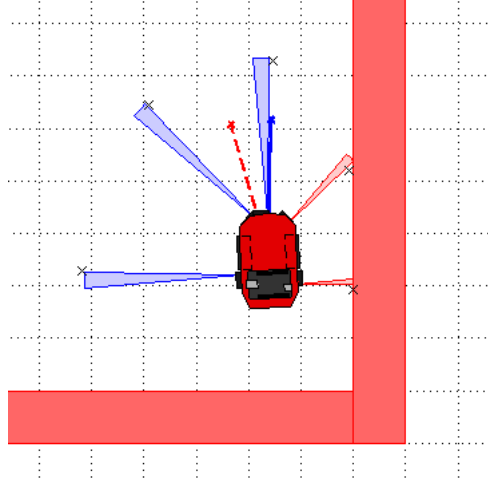

Figure 6: IR range to point transformation.
Start by downloading the new robot simulator for this week from the Week 4 programming assignment. This week you will be implementing the different parts of a controller that steers the robot successfully away from obstacles to avoid a collision. This is known as the avoid-obstacles behavior. The IR sensors allow us to measure the distance to obstacles in the environment, but we need to compute the points in the world to which these distances correspond. Figure 6 illustrates these points with a black cross. The
In `+simiam/+controller/+AvoidObstacles.m`, implement this transformation in the `apply_sensor_geometry` function. The objective is to store the transformed points in `ir_distances_wf`, such that this matrix has  $v''_1$  as its first column,  $v''_2$  as its second column, and so on. This matrix now contains the coordinates of the points illustrated in Figure 6 by the black crosses. Note how these points *approximately* correspond to the distances measured by each sensor (Note: *approximately*, because of how we converted from raw IR values to meters in Week 2).
2. Once you have implemented the second part, one black cross should match up with each sensor as shown in Figure 6. The robot should drive forward and collide with the wall. The blue line indicates the direction that the robot is currently heading ( $\theta$ ).